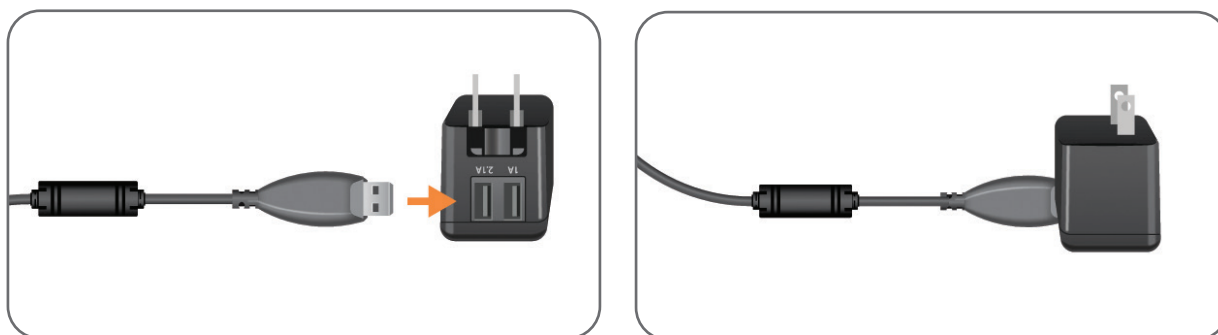

Figure 4-6: Inserting USB Charging Cable into AC Adapter
2. Insert the USB end on the charging cable into any of the two available USB ports on the AC adapter. See Figure 4-6.